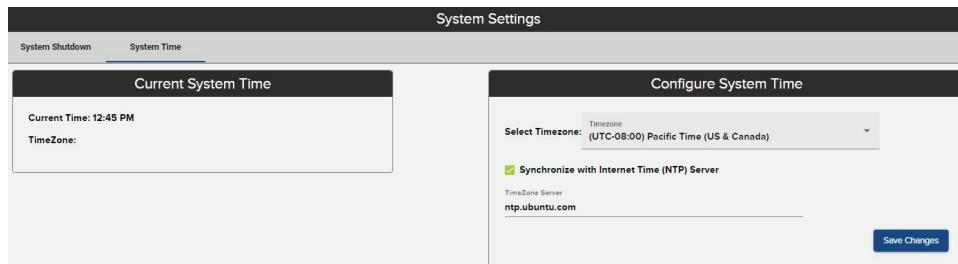

Figure 91: System Settings - System Time
2. From the Administration menu, click on **System Settings**, then **System Time**. The **System Time** window will open (see Figure 91).